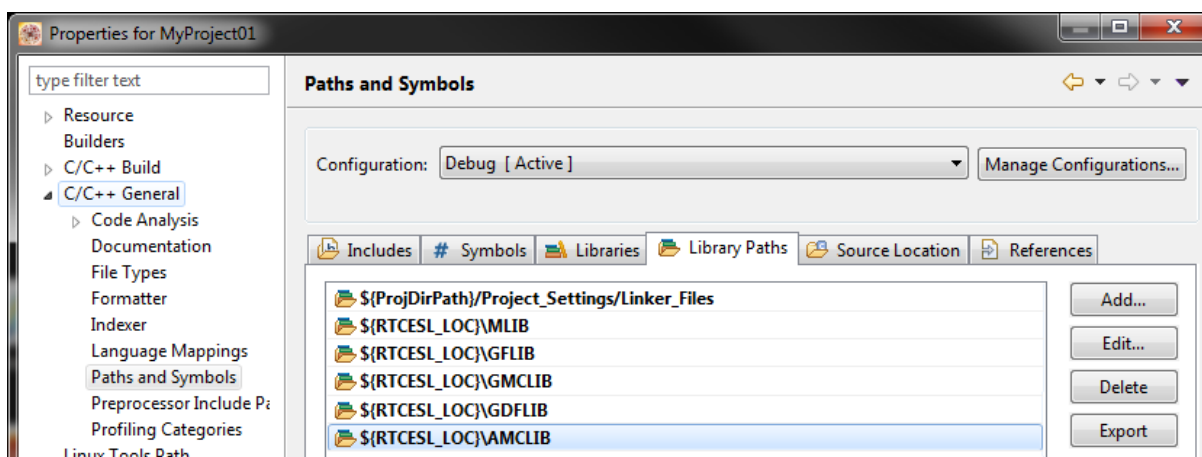

Figure 1-22. Library paths
- In the right-hand dialog, select the Library Paths tab. See Figure 1-22.
14. Click OK, and the paths will be visible in the list. See Figure 1-22.